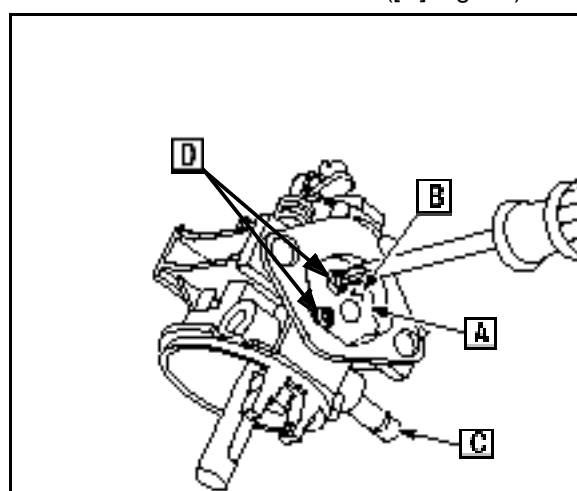

Fig. 63
9. Place choke plate ([A] Fig. 63) on choke shaft with stamped number ([B]) toward the fuel inlet nipple ([C]) side of the carburetor.
10. Secure with two screws ([D] Fig. 63).